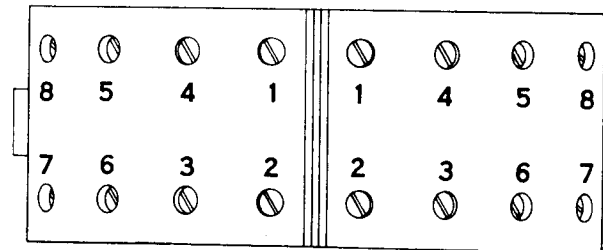

FIG. 139
1. Install brake linings on brake shoes with washers and nuts. Torque nuts to 200 to 220 in. lbs. (Fig. 138). Tighten nuts in sequence shown in Fig. 139.